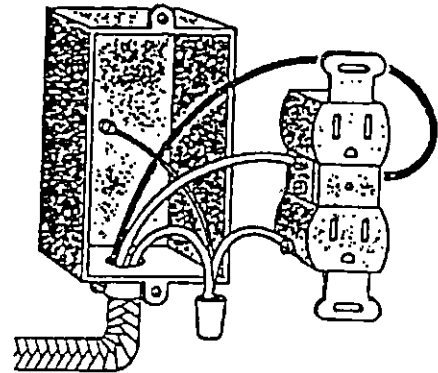

Figure 2. Receptacle without cover.
2. Exposed receptacles hanging out of box without a face plate. See figure 2.